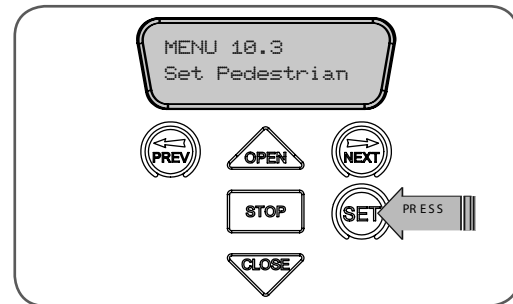

fig 45
5. Press SET on the logic console to save the Pedestrian Access position (Fig. 45).